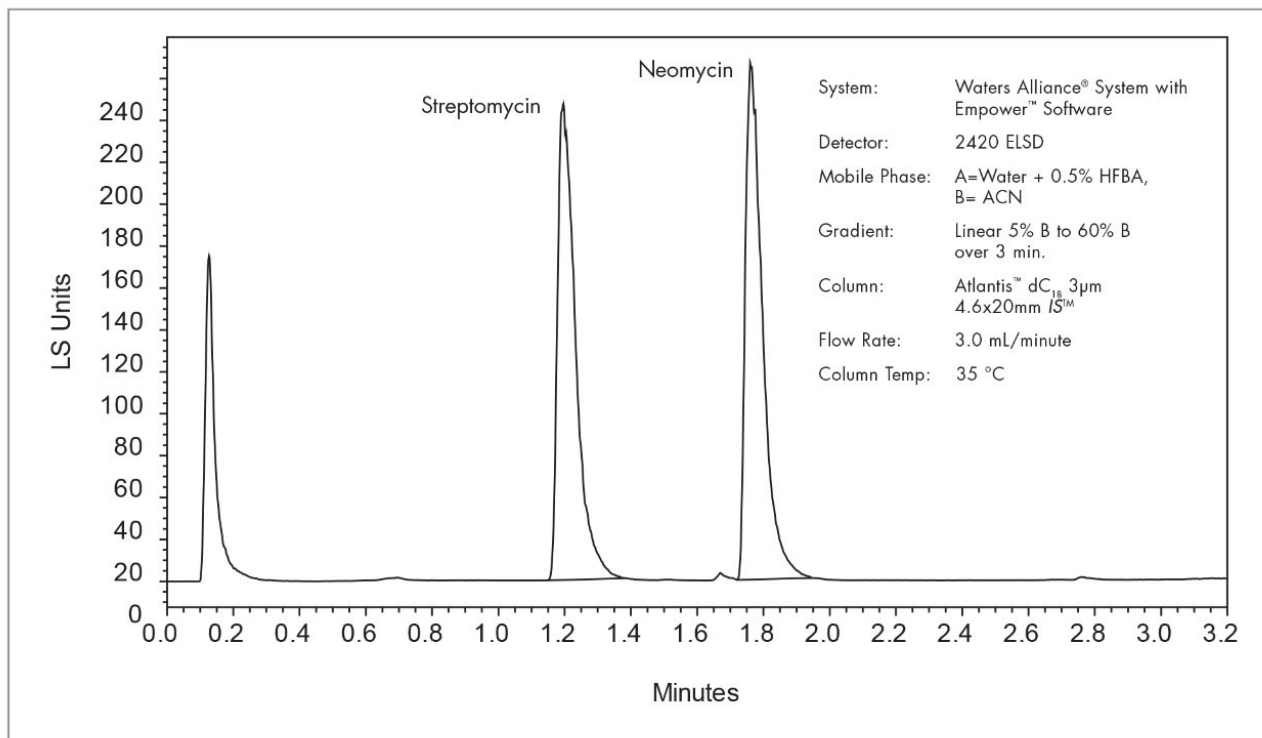

Figure 1. Separation of streptomycin and neomycin.
- Pharmaceuticals (Figures 1 and 2)